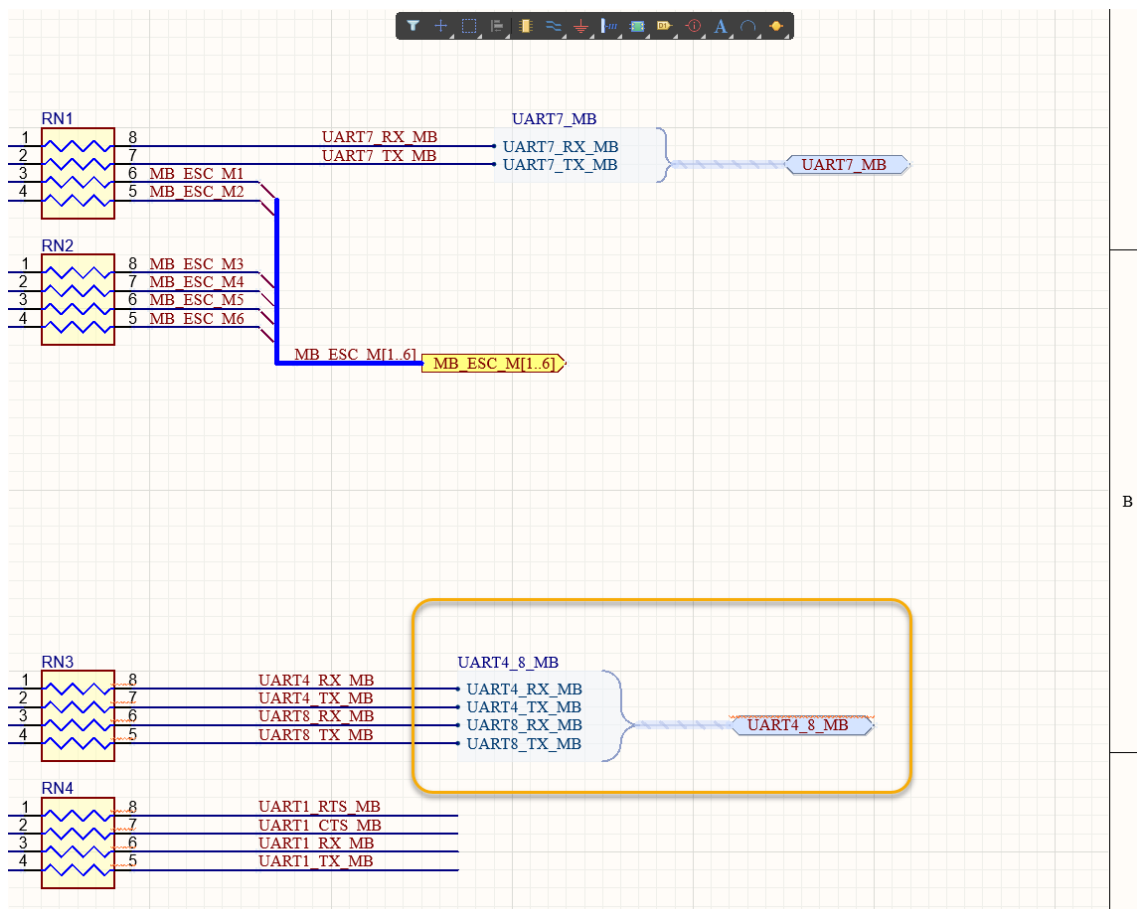

Figure 14. Place Predefined Harness connector UART4\_8\_MB
28. Place the predefined Harness Connector UART4\_8\_MB on the wires on the right-side of component RN3 as shown in Figure 14.